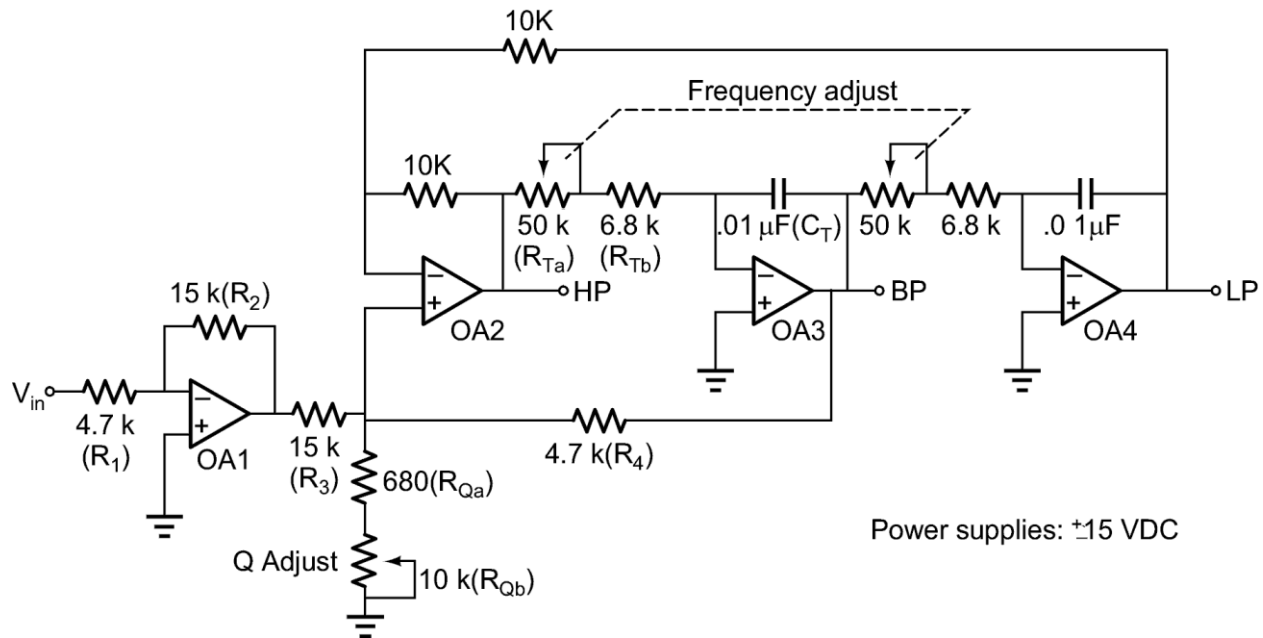

Figure 1
1. Assemble the circuit of Figure 1.